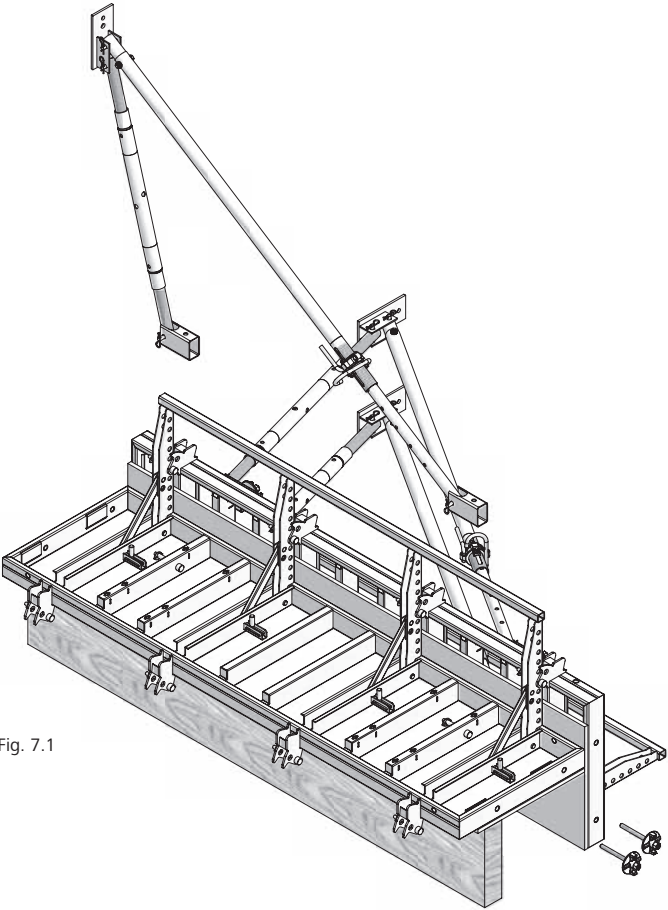

Fig. 7.1
- 1. Attach the formwork-prop connectors on the brace frames to the multi-function profiles using flange screws (Fig. 7.1).